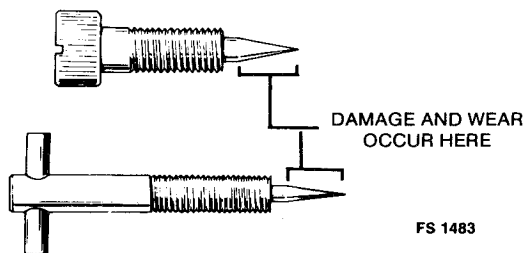

FIGURE 19. MIXTURE NEEDLE INSPECTION
4. Check the condition of any needle valve not included in repair kit and replace if damaged (Figure 19). Replace float if loaded with fuel or damaged.